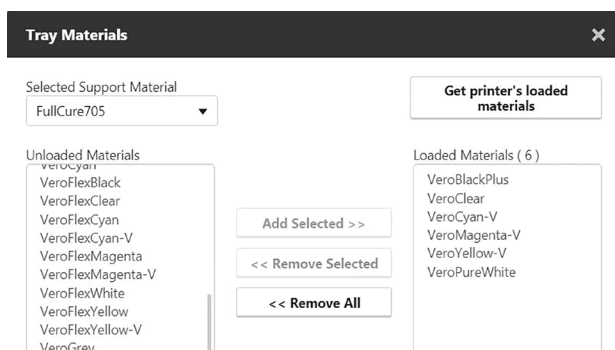

Figure 3: Loaded materials for printing with Pantone
- These five materials must be loaded in the material cabinet (see Figure 3):